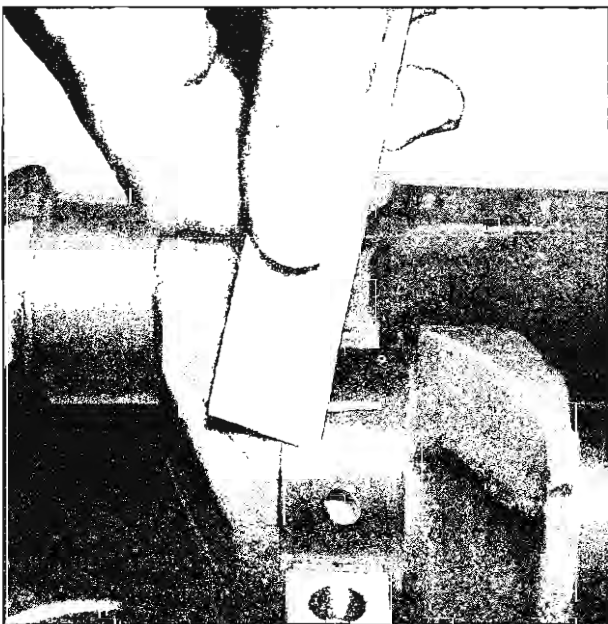

Fig. 53—Measuring Plastigage
5. Without removing the Plastigage, check its compressed width (at the widest point) with the graduations on the Plastigage envelope (fig. 53).